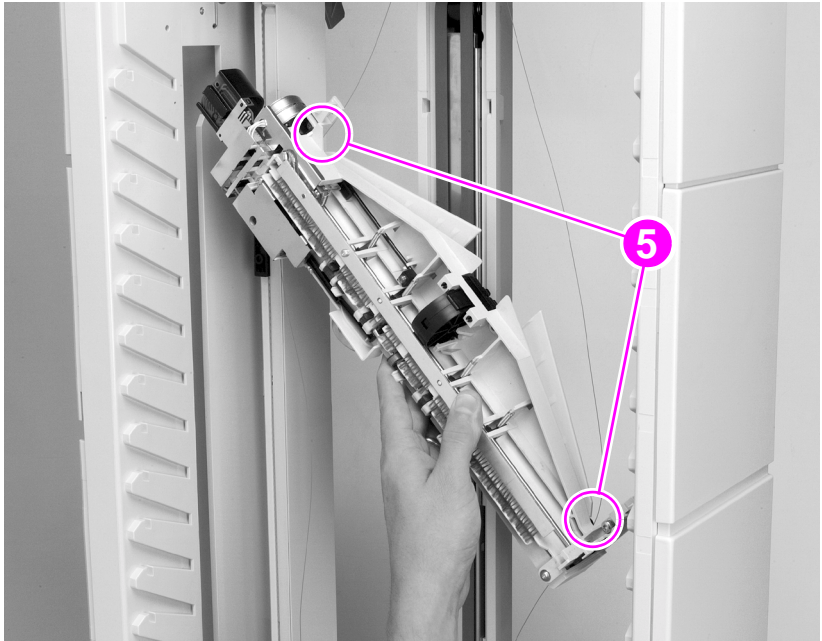

Figure 184. Delivery head assembly (4 of 4)
- 8 Rotate the assembly clockwise while guiding the back end out of its access opening (see figure 184).